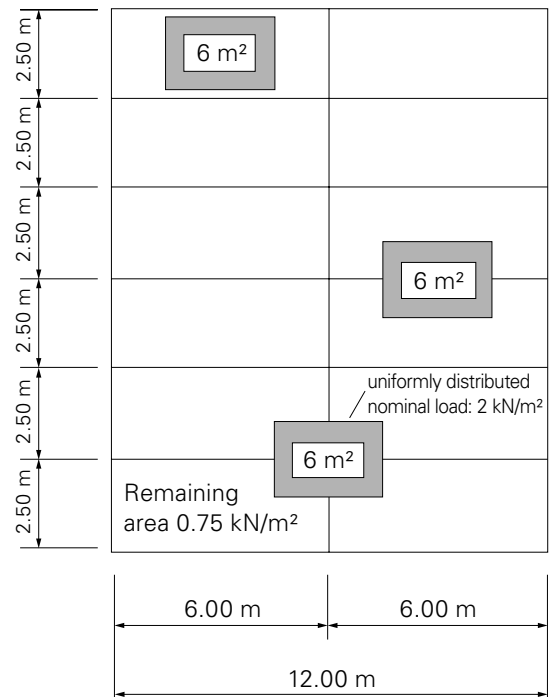

Fig. 02
- Work only on the slab: limitation of the uniformly distributed nominal load to an area of 6 m² in the most unfavourable position. The remaining area must be taken into account with at least the loads of Load Class 1. (Fig. 02)